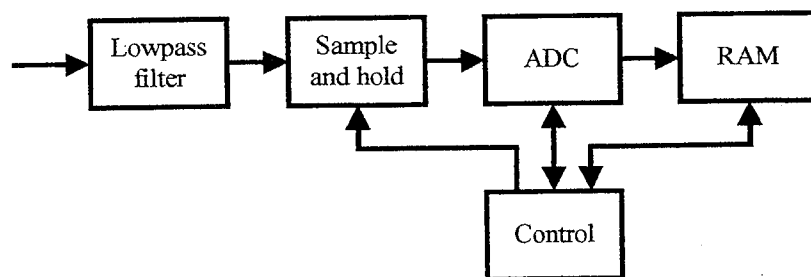

Figure 3b
- (c) An analogue input signal is to be digitised using the system shown in *Figure 3b*. The maximum input signal frequency is 35 kHz, and the analogue-to-digital converter (ADC) sampling frequency is 100 kHz. The sample-and-hold circuitry is used to maintain a constant input signal to the ADC while the conversion takes place. The ADC is an 8-bit converter which is adjusted to ensure that the maximum input signal fills all levels of the converter. Calculate: